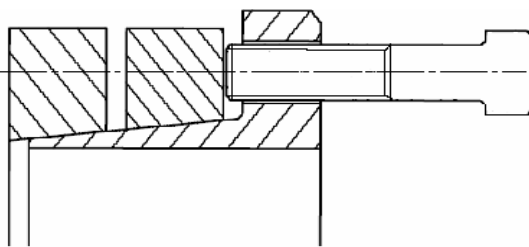

Fig. 2
2. Remove screws adjacent to the puller threads and screw them into these threads. The thrust ring 1 is released by jacking the screws against the web of the inner ring (figure 2).